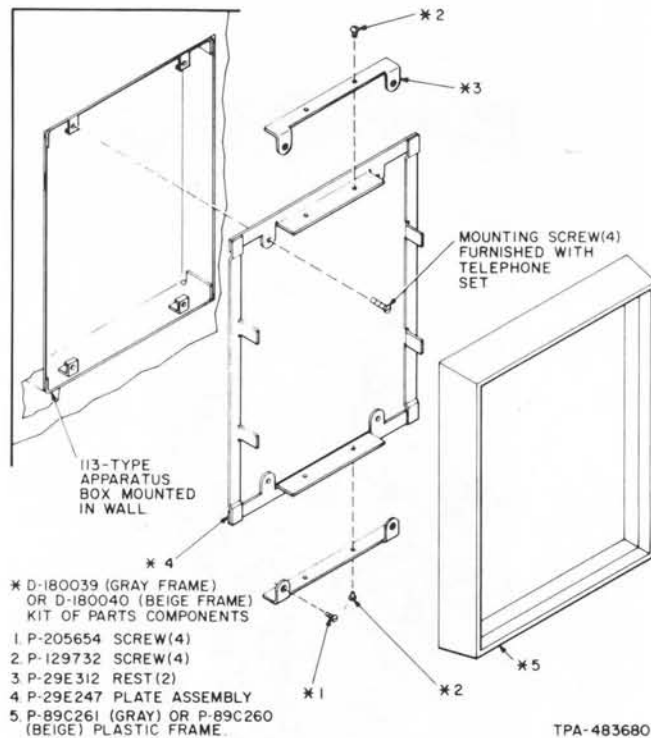

Fig. 2—Installation of D-180039 or D-180040 Kit of Parts
2.02 0- and 1-button panel type telephone sets use a 113-type apparatus box (Fig. 1) and 6-button key panel sets use a 114-type apparatus box for flush installations. To partially recess 6-button key telephone sets install a 113-type apparatus box and D-180039 or D-180040 Kit of Parts (Fig. 2).